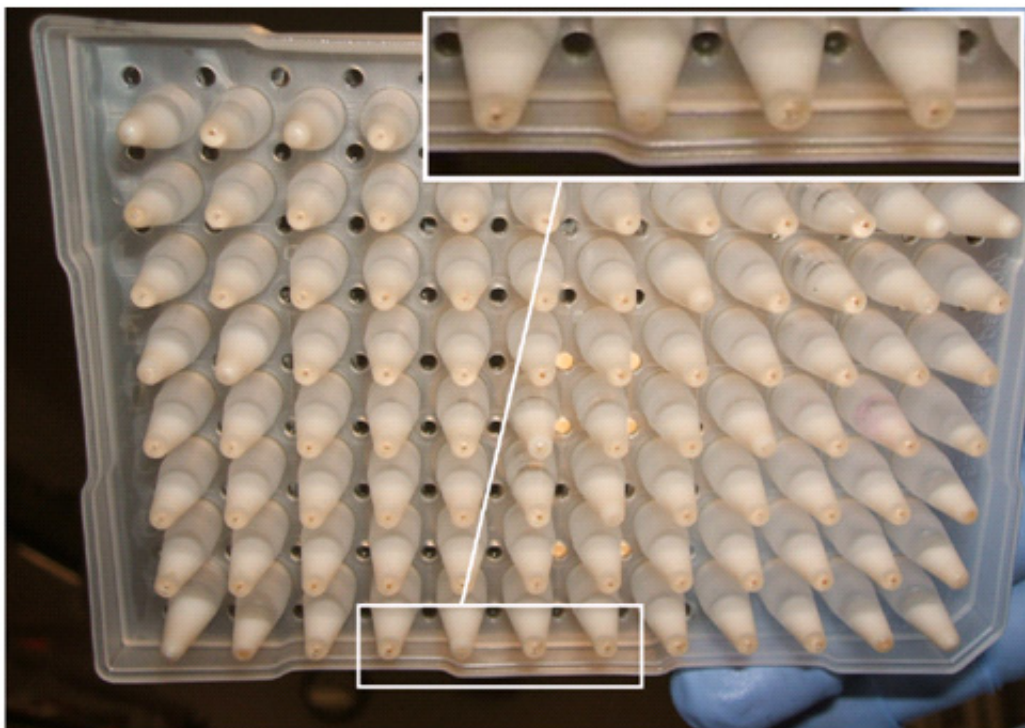

Figure 30 Broken emulsions.
3. After the ePCR Program finishes, inspect the bottom of the reaction plate for beads that have fallen out of the emulsion. Beads appear as amber-colored specks at the bottom of a well. A small number of beads may fall out of emulsion and appear as small brown flecks at the bottom of a well. Applied Biosystems does not recommend any further processing of emulsions that have more than 3 wells of broken emulsion, where aqueous phase appears at the bottom of a well (see Figure 30).